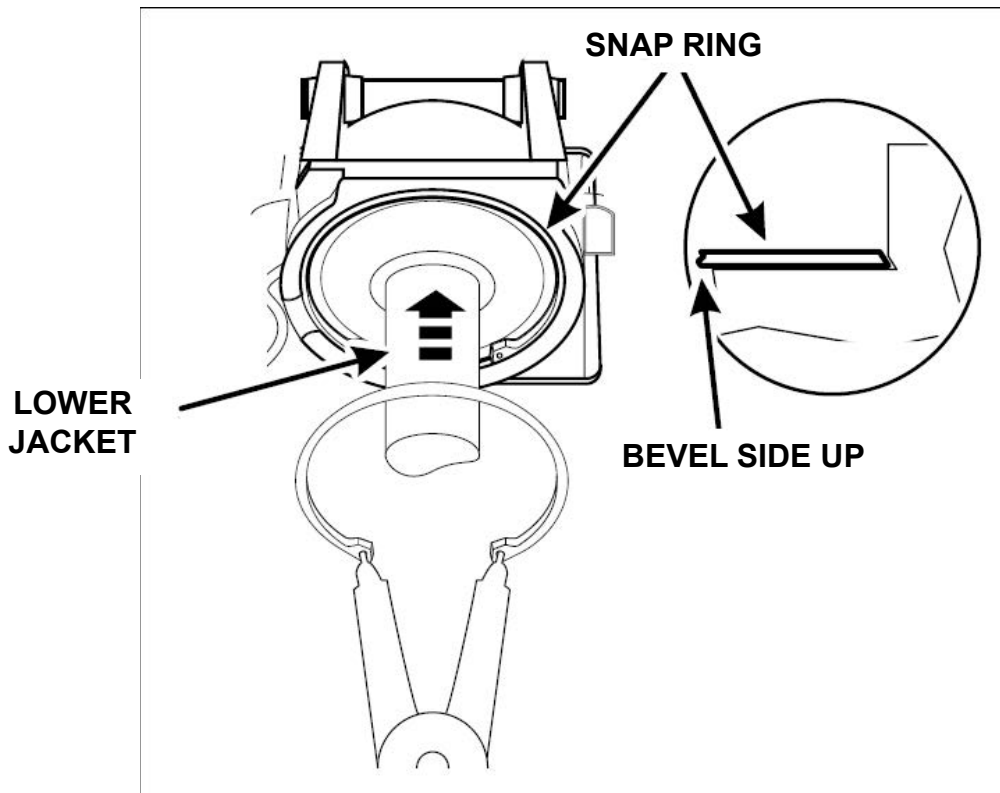

FIGURE 23
31. Install the lower jacket and install the original snap ring bevel side up. See Figure 23.